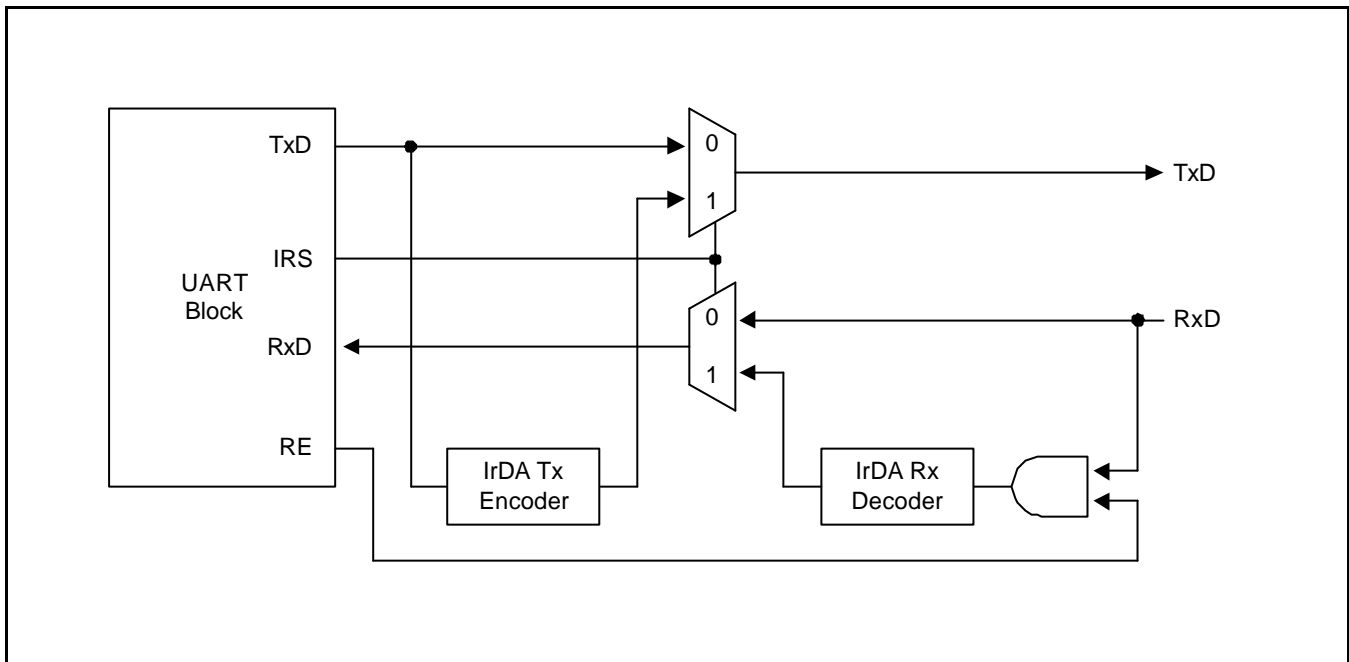

Figure 11-4. IrDA Function Block Diagram
The S3C2410A UART block supports infra-red (IR) transmission and reception, which can be selected by setting the Infra-red-mode bit in the UART line control register (ULCONn). Figure 11-4 illustrates how to implement the IR mode.